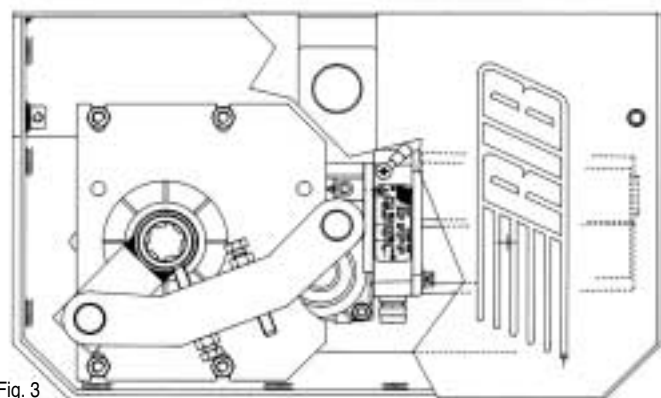

Fig. 3
**MAGIC 105° version (fig 3):** this has a system controlling the speed of the opening and closing movements (opening movement initially slow, then fast; closing movement initially fast, then slow immediately before shutting).